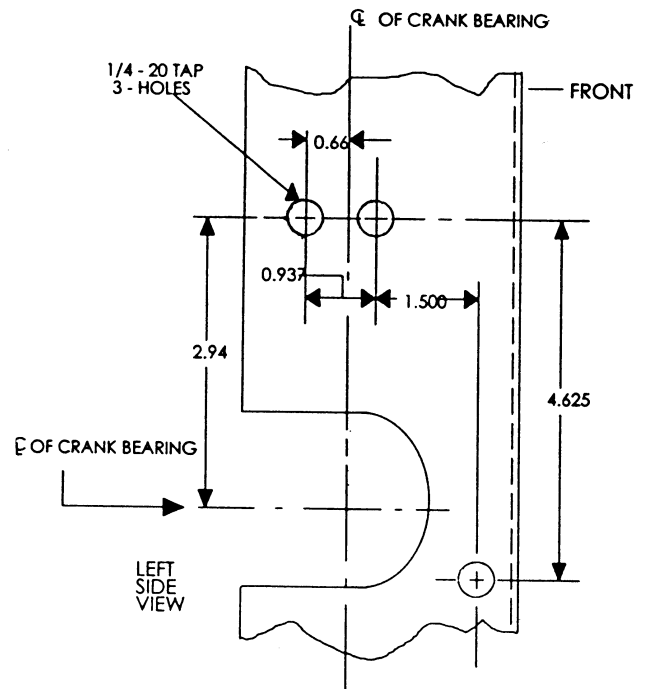

Figure 11. Mounting hole drill pattern for the trip unit mounting plate.
1. The holes for the new mounting plate may have to be added to the front channel. The drill pattern is shown in Figure 11, with a full-size template in the Appendix. Tap the holes for  $\frac{1}{4}$ -20 screws.